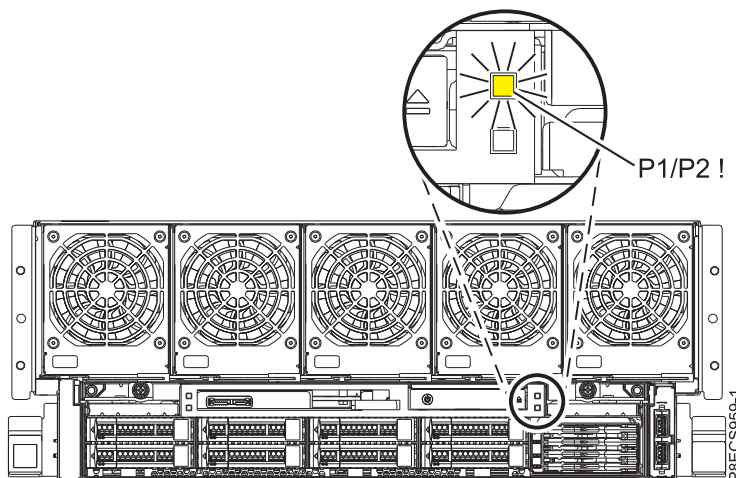

Figure 9. Front **P1/P2 !** fault roll-up LED on the 8408-44E or 8408-E8E system.
- Note the state of the **P1/P2 !** fault roll-up LED, which is located on the front of your 8408-44E or 8408-E8E system as shown in Figure 9.